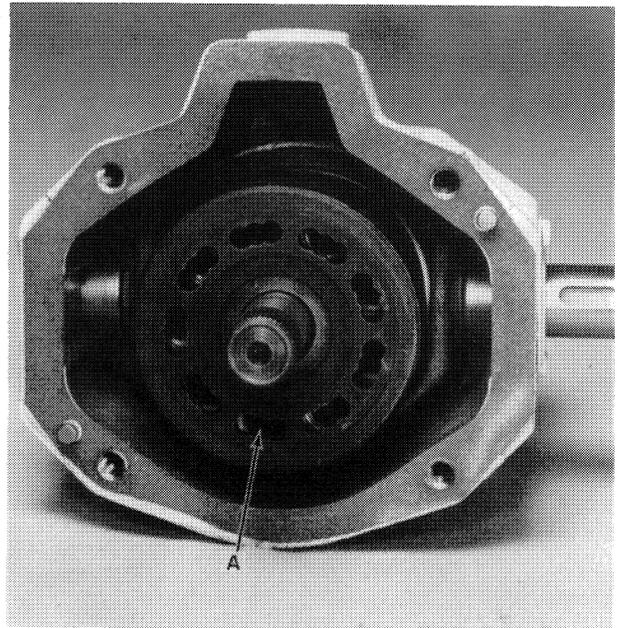

FIGURE 4-6
6. Hold the rotating piston block, A, Figure 4-6, in one hand and tilt the open end of the housing down. Turn the rotating piston block and pull it out as a complete unit without scratching or burring the parts.